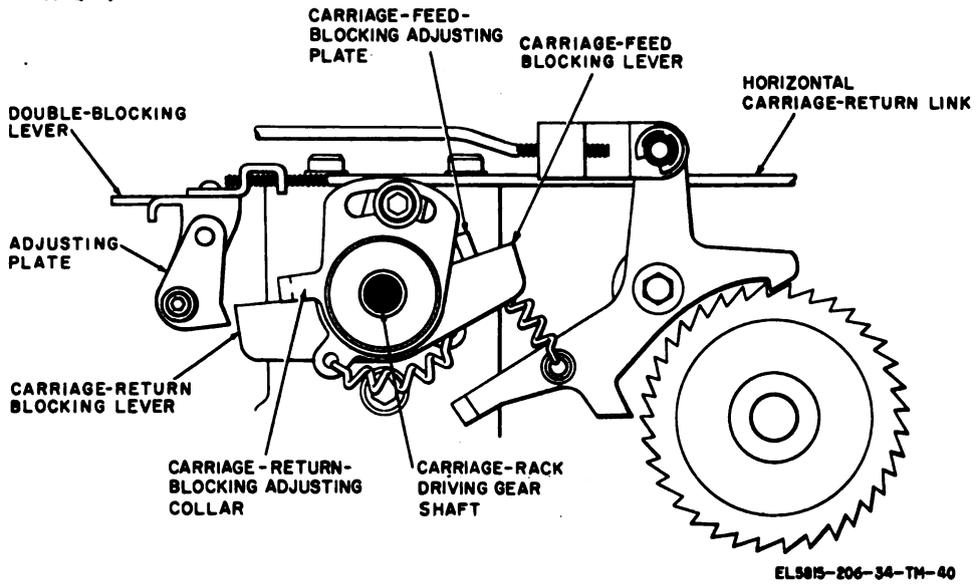

Figure 2-40. Carriage-return blocking mechanism (TT-4B/TG, TT-4C/TG, TT-335/TG, TT-537/G, TT-698A/TG, and TT-698B/TG).
g. Carriage-Return Blocking Feature. The carriage-return blocking lever is used to prevent engagement of the carriage-return clutch when the carriage is at the left hand margin and a carriage return code group is received. The carriage-return blocking lever is mounted on, and rotates with, the carriage-rack driving gear shaft (fig. 2-40 and 2-41). When the carriage is at the left-hand margin, the blocking lever blocks movement of the double blocking lever of the TT-4B/TG, TT-4C/TG, TT-335/TG, TT-698A/TG, and TT-698B/TG (fig. 2-40) and the carriage-return operating lever of the TT-4A/TG and TT-698/TG (fig. 2-41). Under these conditions, the carriage-return-clutch drum (fig. 2-34 and 2-35) does not move into engagement with the carriage-return clutch disk.